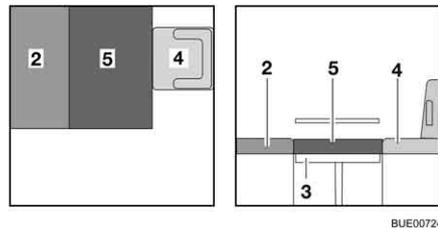

Fig. 92 After conversion
- Place the additional cushion (Fig. 92,5) on the table.
- If required, push the driver's seat (Fig. 92,4) back to the rear.